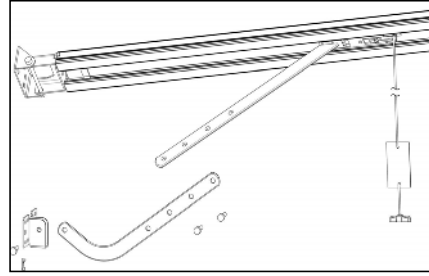

Fig. 7
- 8.2 Attach the Bent Connecting Arm to the Door Mounting Bracket using the Clevis Pin provided. (Fig.7)